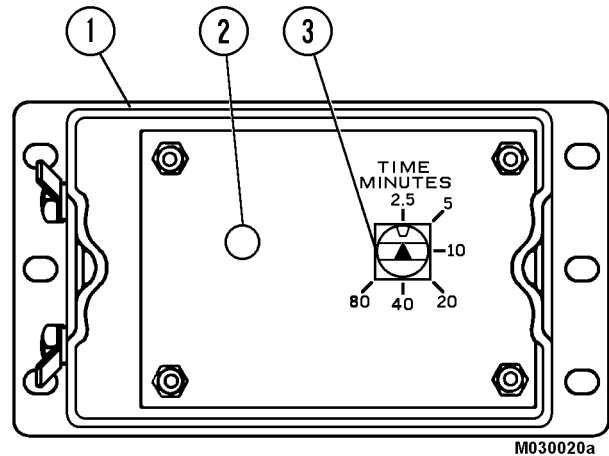

FIGURE 42-12. LUBRICATION CYCLE TIMER (Shown With Cover Removed)
2. Adjust timer selector (3, Figure 42-12) to the five minute interval setting